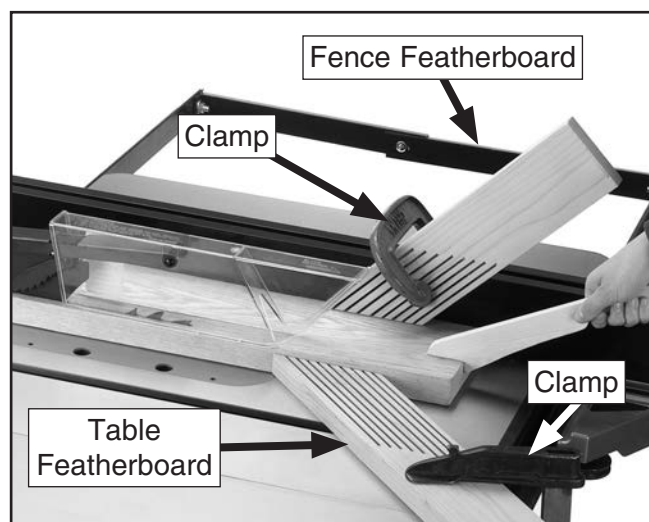

Figure 58. Example of featherboards secured with clamps.
3. Place a featherboard on table away from blade so all fingers point forward and contact workpiece (see **Figure 58**).